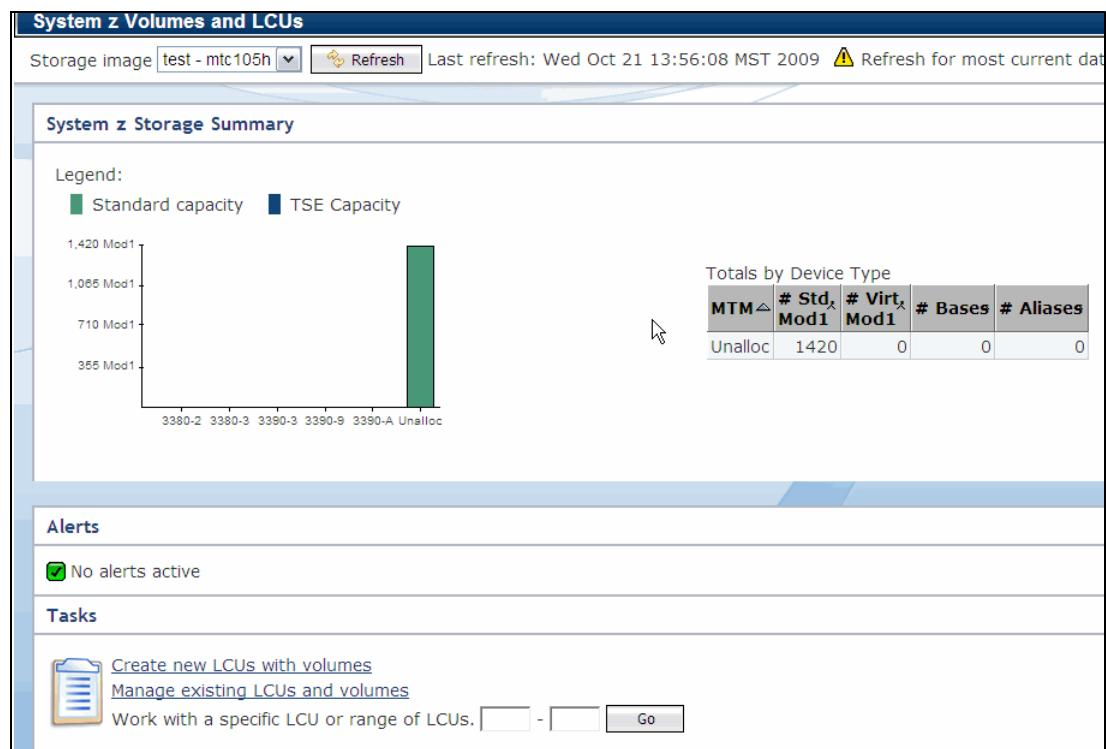

Figure 13-66 System z Volumes and LCUs window
- Select **Configure Storage → System z Volumes and LCUs** in the My Work task list. The System z Storage Summary window shown in Figure 13-66 opens.